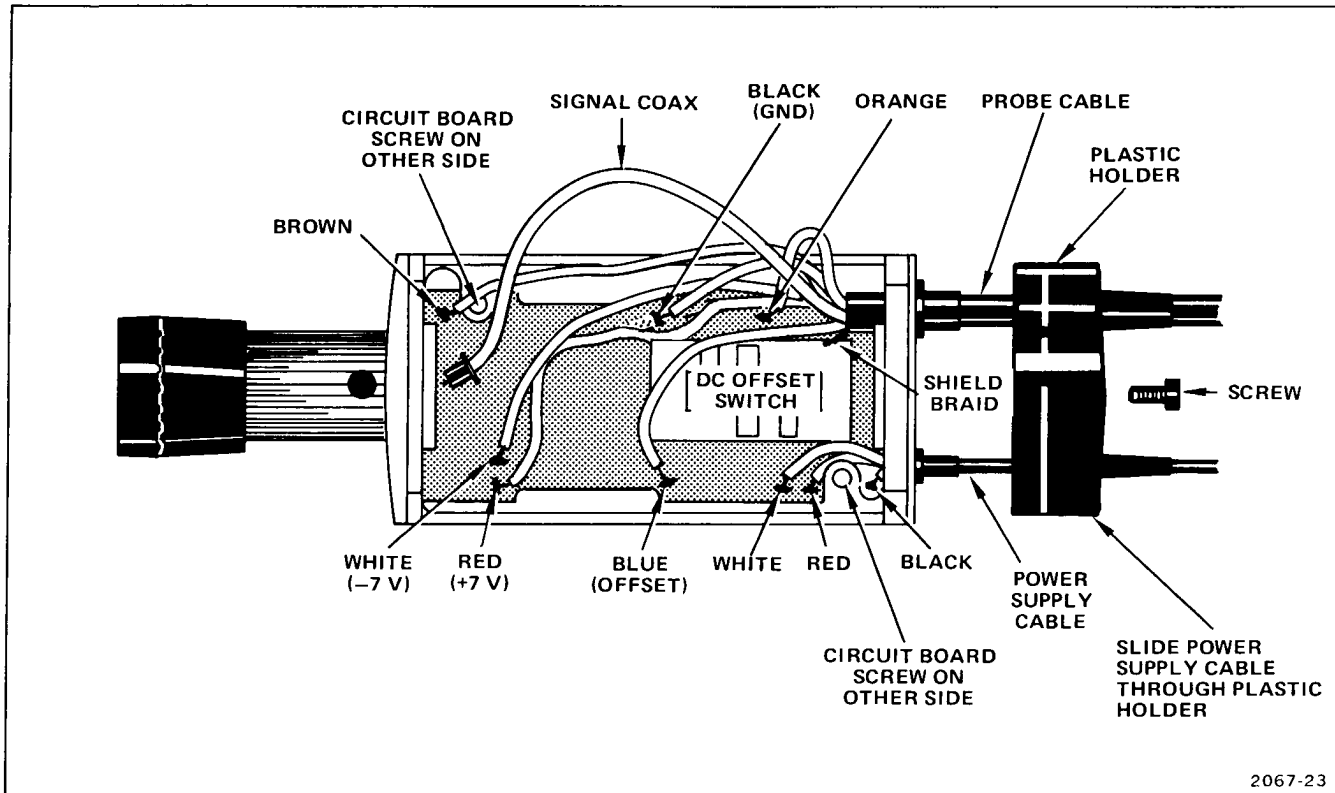

Figure 5-5. Probe control body.
2. Loosen slightly the two screws holding the Probe Control Body circuit board. Grasp the blue signal coaxial cable near the output bnc connector with a pair of long-nose pliers (see Figure 5-5). Pull the cable out of the connector.
3. Unsolder and identify for later installation the six probe cable wires from the Probe Body circuit board (see Figure 5-5).
4. Remove the Phillips screw from the plastic holder on the cable end of the Probe Control Body (see Figure 5-5). Slide the plastic holder away from the Probe Control Body.
7. Slide the power supply cable through the plastic holder (see Figure 5-5).
2. Disconnect the blue signal coaxial cable from near the output bnc connector (see Figure 5-5).
3. Unsolder all wires from Probe Control Body circuit board and identify them for later installation (see Figure 5-5).
2. Unplug the blue signal coaxial cable from near the output bnc connector (see Figure 5-5).